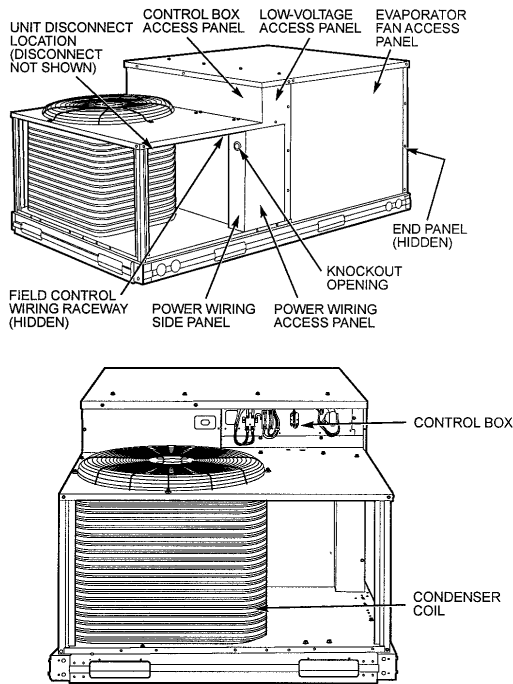
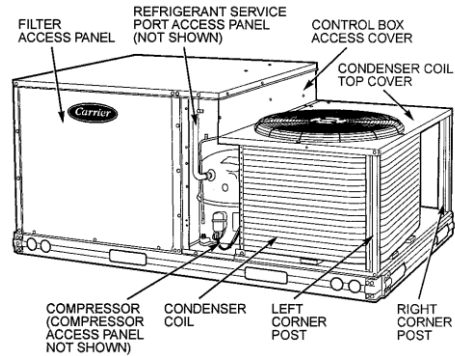
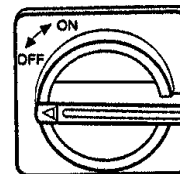

FIGURE 1 – Typical Component Locations
FIGURE 2 – Fan & Motor Assembly
FIGURE 3
If the 208-V unit is to be connected to a 230-V power supply, the transformer must be rewired by moving the black wire from the red wire on the transformer and connecting it to the orange wire from the transformer. The end of the red wire must then be insulated. To change these wires, remove the low voltage access panel and the control box access panel. **See Figure 1.**
1. Remove evaporator fan access panel (**See Figure 1**). Check fan and belt rotation by turning on disconnect for one to two seconds. **See Figure 2.**
3. Replace evaporator fan access panel. **See Figure 2.**
The On/Off switch (Disconnect) is mounted on the unit under the top panel and behind the condenser coil. **Reference Figure 1 and Figure 3.**
1. Ensure On/Off switch (Disconnect) is turned to "Off" position. The On/Off (Disconnect) switch is "Off" when turned counter-clockwise. **Reference Figure 3.**
7. Turn On/Off switch (Disconnect) to "On" position. Turn On/Off switch (Disconnect) to "On" position by turning clockwise. See **Figure 3**.
1. Turn Disconnect to "Off" position. The On/Off (Disconnect) switch is "Off" when turned counter-clockwise. **Reference Figure 3**.